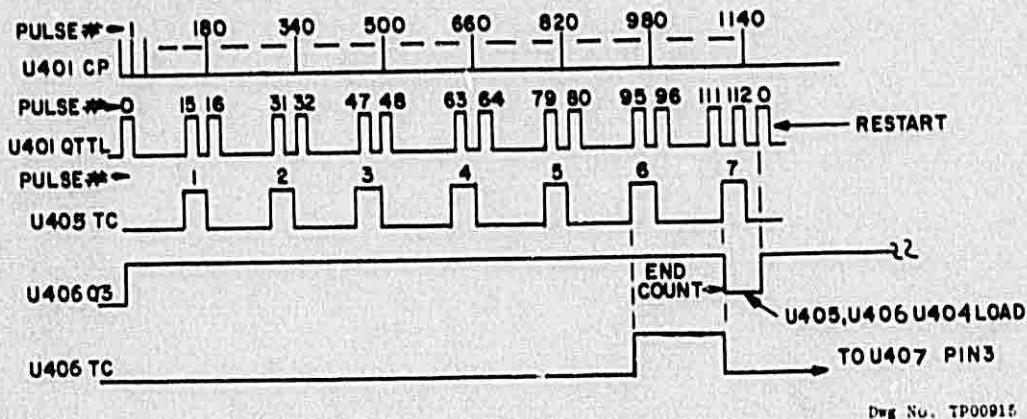

FIGURE 4-12. SYNTHESIZER DIGITAL TIMING FOR 116.90 MHZ
When the  $\pm N$  counter has reached its end count, Q3 (pin 11) of U406 goes logic LOW. Q3 is connected to the parallel enable (PE) inputs of U404, U405, U406. When the PE input is logic HIGH the counters are set in the Count Mode, when PE is logic LOW, the counters are set in the Load Sequence. In our example, the  $\pm N$  number is 1140 and the count sequence will begin after the counters are loaded. Refer to Figure 4-12.